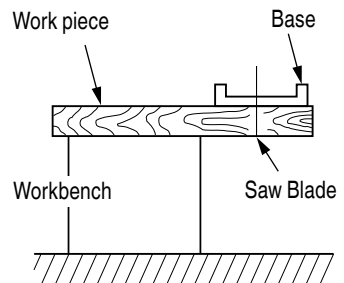

Fig. 6
6. Prepare a wooden workbench (Fig. 6)